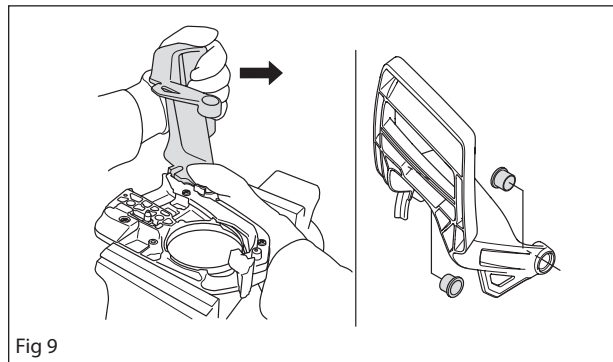

Fig 9
Tighten the brake by using the saw's hand guard as a tool. Mesh with the brake and tighten clockwise until the brake is in the off position. See figure 9.
**NOTE!** Make sure the bushings in the kickback guard's attachments are kept in place from the inside. See figure 9.